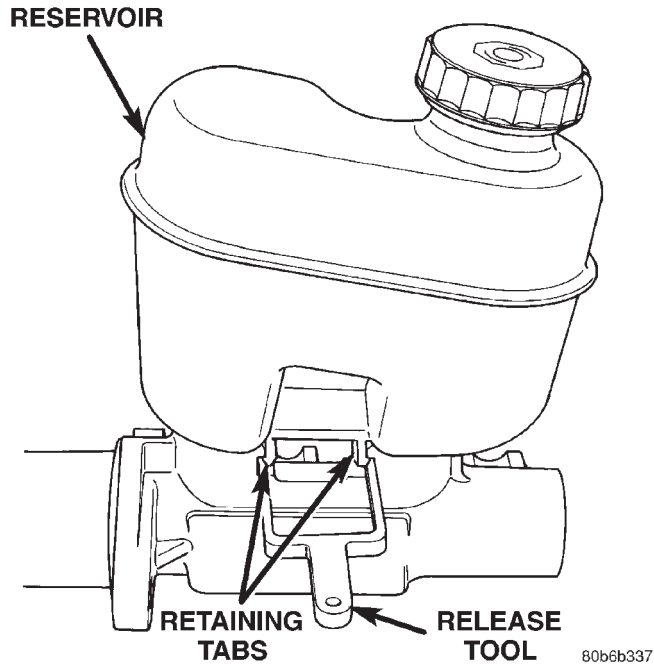

Fig. 19 Release Tool
(1) Remove reservoir cap and remove fluid with a **clean** suction gun.
(2) Remove the wire connector from the brake fluid level sensor.
(3) Insert the tool (Fig. 19) provided with the reservoir to release the reservoir retaining tabs.
(4) Pull the reservoir straight up out of the cylinder.
(5) Remove and discard grommets from the cylinder body.